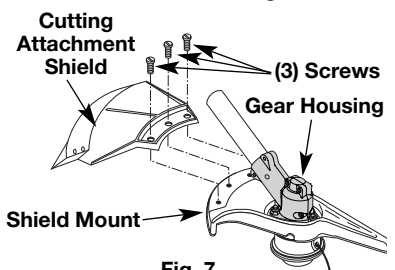

Fig. 7
Remove the cutting attachment shield from the shield mount by removing the three (3) screws with a flat blade screwdriver (Fig. 7). Store parts for future use.
Install the cutting attachment shield on the shield mount by inserting the three (3) screws into the shield mount. Tighten securely with a flat blade screwdriver (Fig. 7).